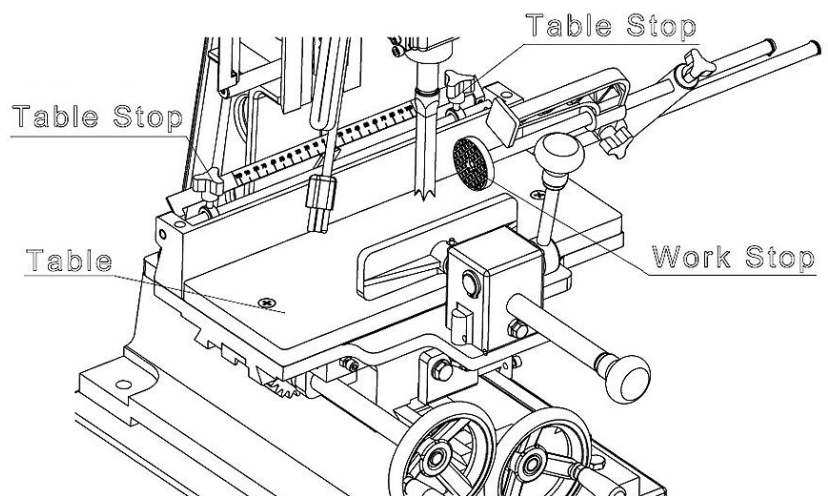

Fig 5
3. Adjust the table stops, Figure 5, according to the length of cut required, and then tighten the thumb screws.